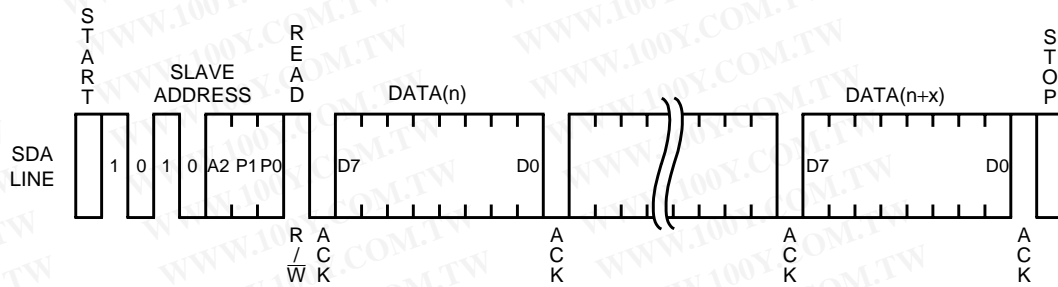

Fig.16
(See Fig.16 to 18 for the sequential read cycles.)
- When an ACK signal LOW is detected after D0 and a stop condition is not sent from the master (μ -COM), the next word address data can be read. [All words all read enabled] (See Fig.16 to 18 for the sequential read cycles.)
(11) Sequential read